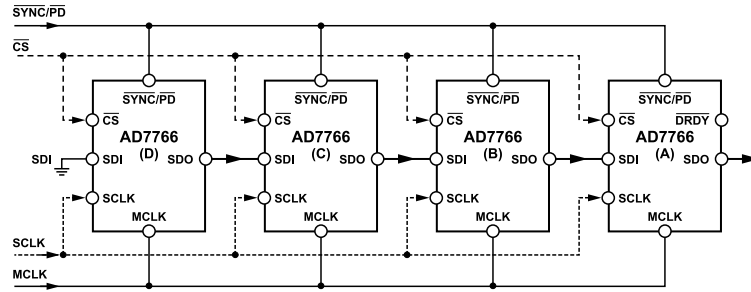
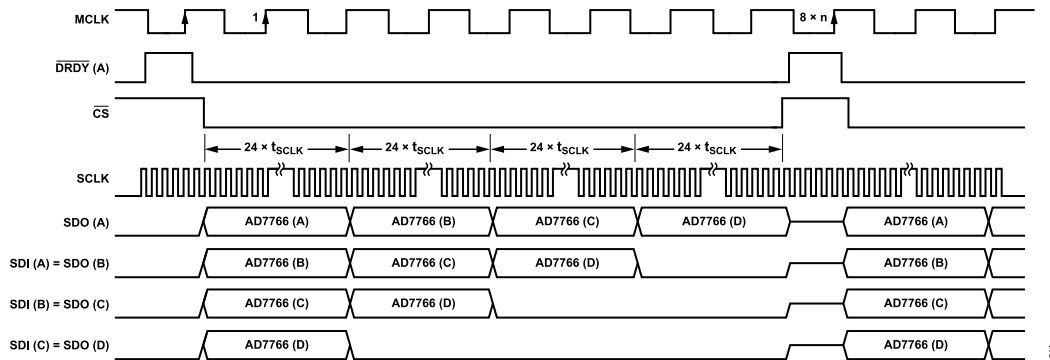
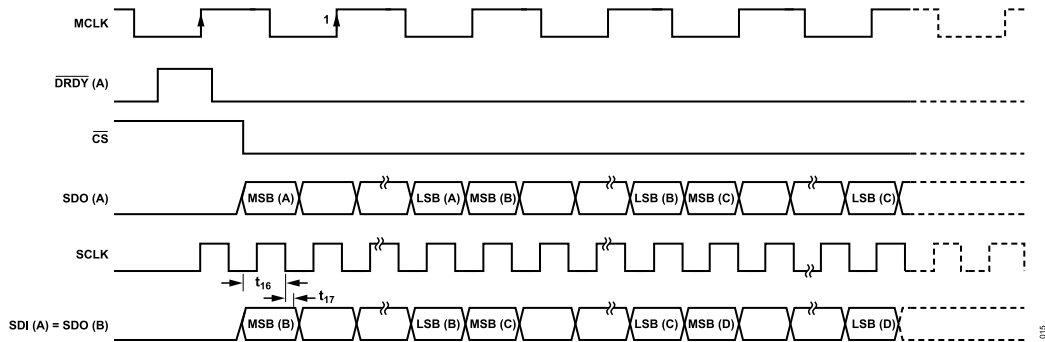

Figure 36. Daisy-Chain Configuration with Four AD7766 Devices
Figure 37. Daisy-Chain Timing Diagram ($n = 1$ for AD7766, $n = 2$ for AD7766-1, $n = 4$ for AD7766-2) When Driving the AD7766
Figure 38. Daisy-Chain SDI Setup and Hold Timing
The block diagram in Figure 36 shows how devices must be connected to achieve daisy-chain functionality. The scheme shown operates by passing the output data of the SDO pin of an AD7766 device to the SDI input of the next AD7766 device in the chain. The data then continues through the chain until it is clocked onto the SDO pin of the first device in the chain.
An example of a daisy chain of four AD7766 devices is shown in Figure 36 and Figure 37. In the case illustrated in Figure 36, the output of the AD7766 labeled A is the output of the full daisy chain. The last device in the chain (the AD7766 labeled D) has its serial data input (SDI) pin connected to ground. All the devices in the chain must use common MCLK, SCLK, $\overline{\text{CS}}$, and $\overline{\text{SYNC/PD}}$ signals.
After applying a $\overline{\text{SYNC/PD}}$ pulse to all the devices, there is a delay (as listed in Table 7) before valid conversion data appears at the output of the chain of devices. As shown in Figure 37, the first conversion result is output from the AD7766 device labeled A. This 24-bit conversion result is followed by the conversion results from the devices labeled B, C, and D, with all conversion results output in an MSB-first sequence. The stream of conversion results is clocked through each device in the chain and is eventually clocked onto the SDO pin of the AD7766 device labeled A. The conversion results of all the devices in the chain must be clocked onto the SDO pin of the final device in the chain while its $\overline{\text{DRDY}}$ signal is active low. This is illustrated in the examples shown (Figure 37 and Figure 38), where the conversion results from the devices labeled A, B, C, and D are clocked onto SDO (A) during the time between the falling edge of $\overline{\text{DRDY}}$ (A) and the rising edge of $\overline{\text{DRDY}}$ (A).
As shown in Figure 37, the number of SCLK falling edges that occurs during the period when $\overline{\text{DRDY}}$ (A) is active low must match the number of devices in the chain multiplied by 24 (the number of bits that must be clocked through onto SDO (A) for each device).